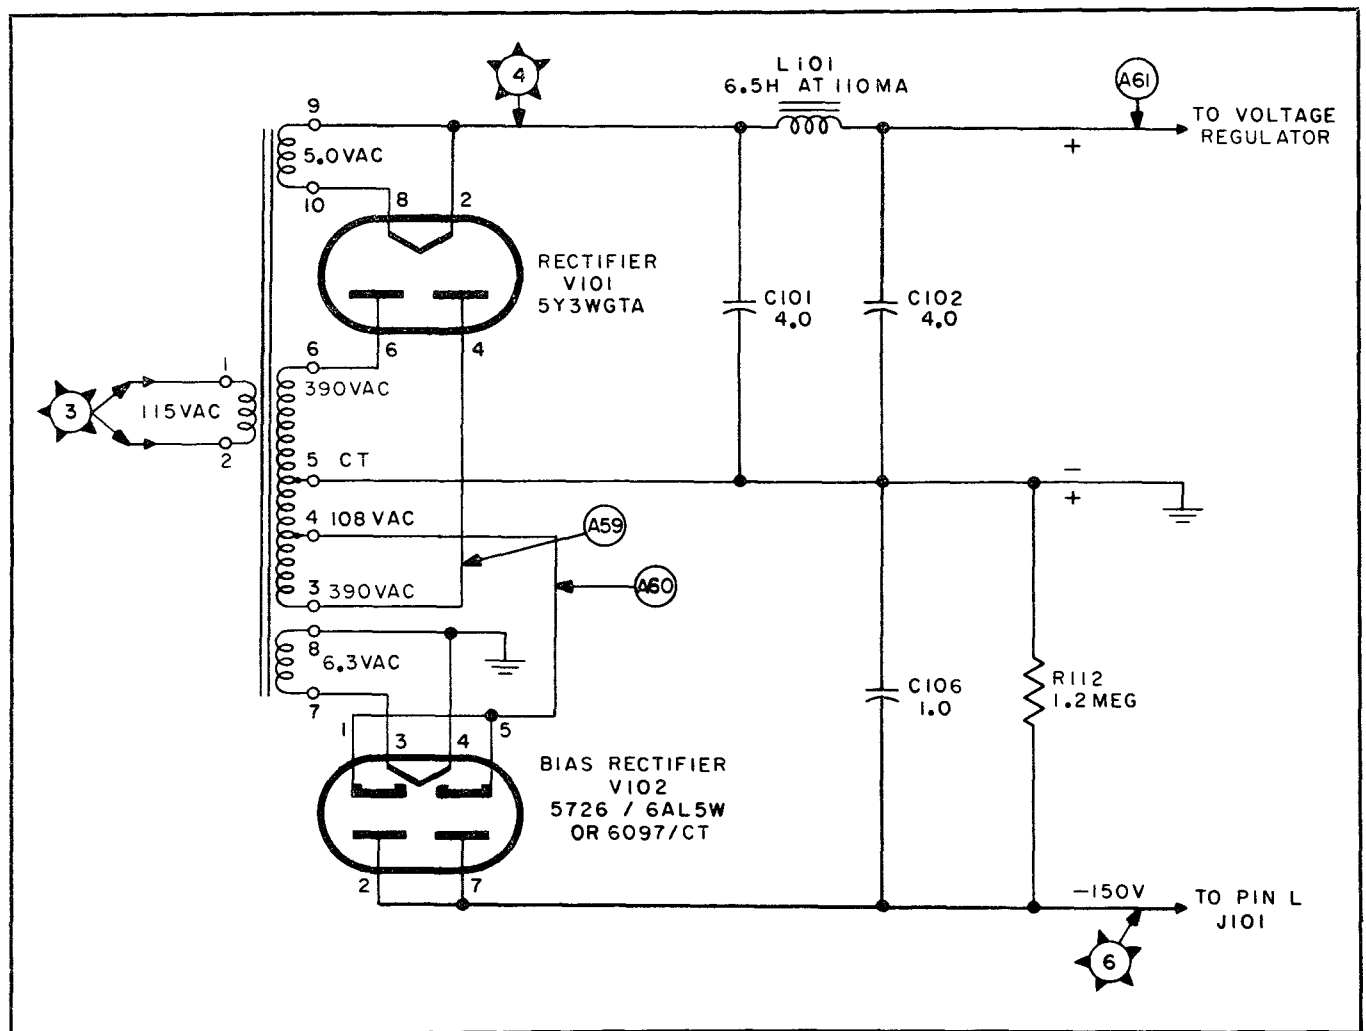

Figure 4-15. Power Supply Partial Schematic, Plate and Bias Supply
- a. Plate and Bias Supply (Figure 4-15.)
4-74. PLATE AND BIAS VOLTAGE SUPPLY. (Figure 4-15.)